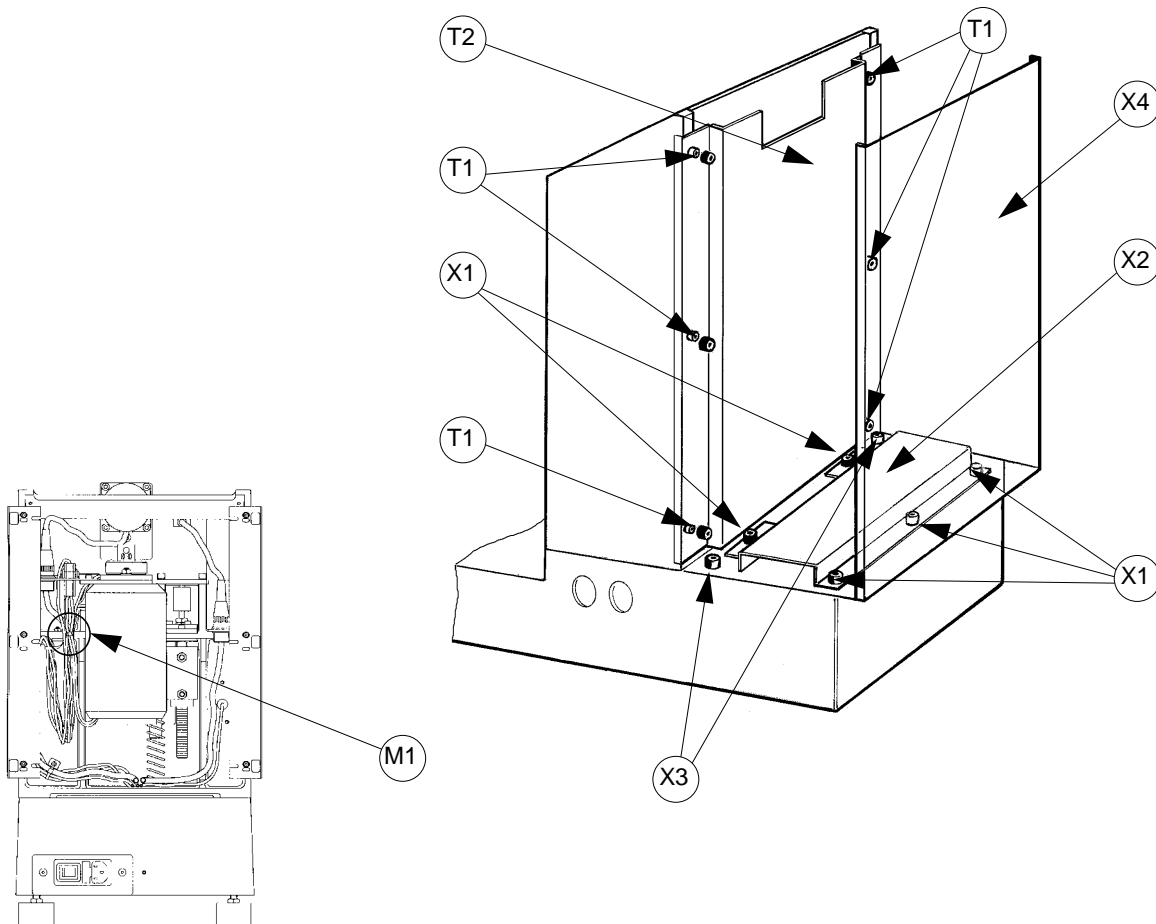

Fig. 47
- 2) Remove the five screws (X1) and remove the protective cover (X2) (fig. 47).
- 4) If necessary, remove the two screws (X3) and remove the rear part (X4) (this procedure gives full access to the motor compartment) (fig. 47).